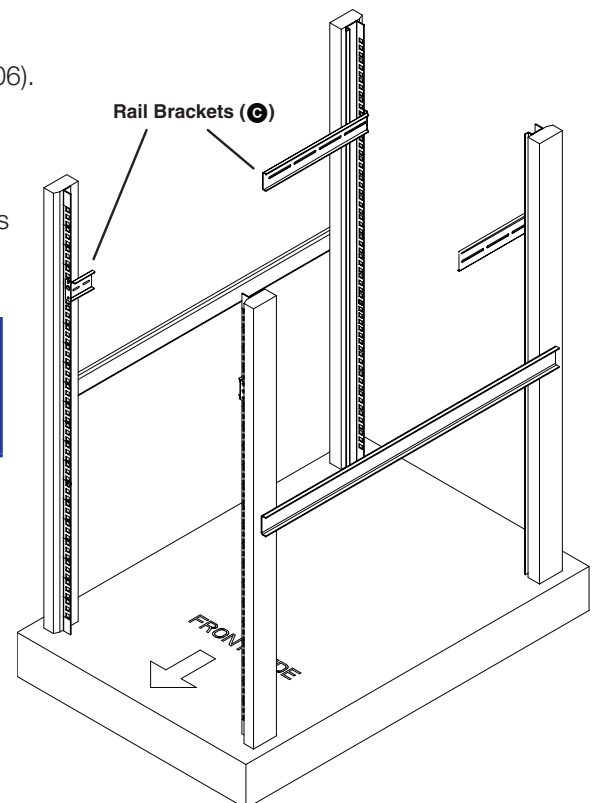

Figure 193. Install Rail Brackets (C)
4. Position the front and rear rail brackets at the desired location in the rack (see figure 193). Screw the rail brackets securely to the rack. Attach the remaining rail brackets to the other side of the rack, making sure both sets are at the same height.